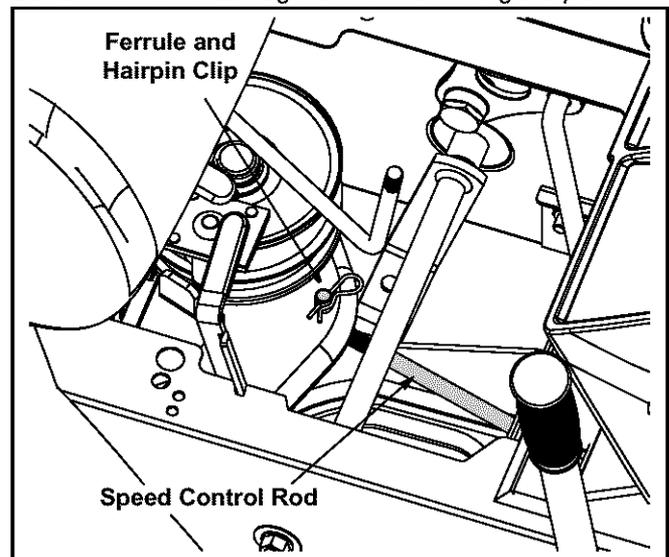

Figure 17
- Remove the shift cover panel and locate the speed control rod. See Figure 17.
- Remove the hairpin clip which secures the speed control rod's ferrule to the speed bracket. See Figure 17.